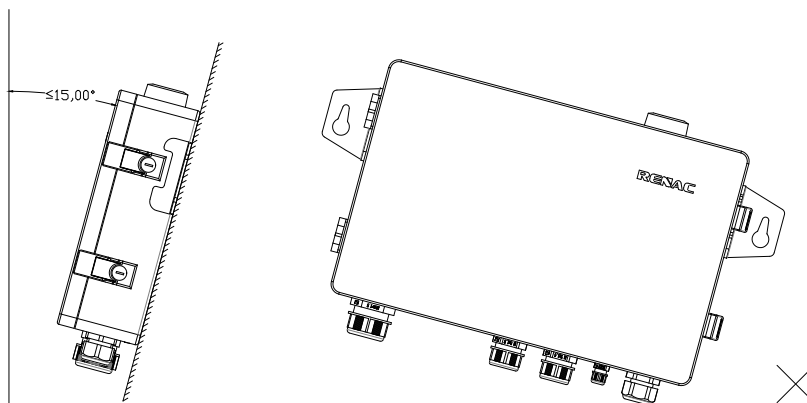

Figure 4-3
- The EMB-100 must be installed vertically or with a backward tilt of less than 15°. No sideways tilt is allowed. The connection area must point downwards. Refer to Figure 4-3.